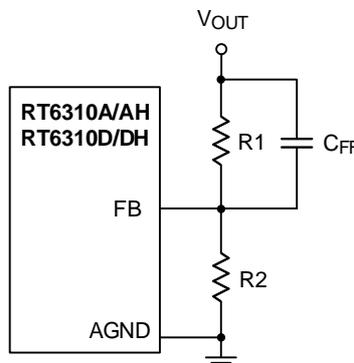
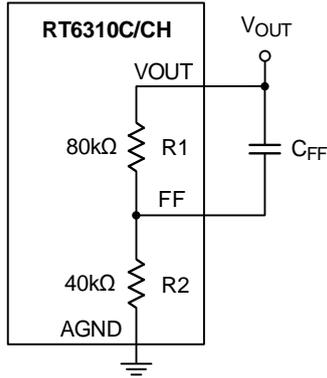
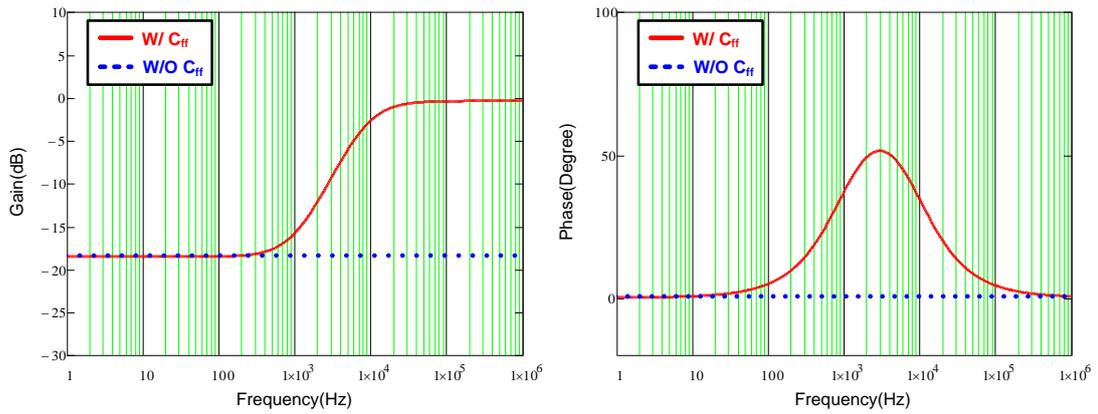

Figure 16. RT6310A/AH/D/DH Feedback Loop with Feedforward Capacitor
Figure 17. RT6310C/CH Feedback Loop with Feedforward Capacitor
Figure 18. Bode Plot with Different Feedback Loop Conditions
To save time for compensator design and to reduce the layout area through external components, the components of compensator are integrated in the IC. However, this integrated compensator might not be suitable for every load transient specification. Hence, to make RT6310 more adaptable, the feedforward capacitor CFF is used in the feedback loop to improve transient response, as shown in Figure 16 and Figure 17. Figure 18 shows the comparison result of bode plot with different feedback loop conditions. Referring to Figure 18, through connecting a CFF in feedback network, the gain and phase are raised in mid-frequency, which not only extends the bandwidth, but also boosts the phase margin. Moreover, there is also a high frequency pole to eliminate high frequency noise. Consequently, those features of feedforward feedback network allow the RT6310 to have faster response to different load transients.
According to Figure 18, the maximum phase boost that occurs between zero and pole frequencies is defined as maximum phase boost frequency, as expressed in equation (4). Hence, in order to achieve the maximum phase boost by adding CFF in the RT6310, the system's original bandwidth has to be located at maximum phase boost frequency.